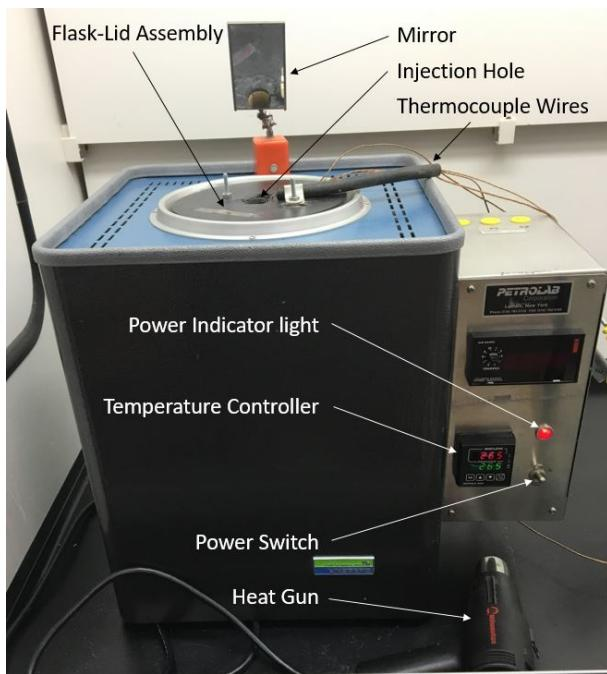

Figure 12: AIT Furnace
- The furnace, shown in Figure 12, is an encased stack of ceramic insulation with cavities cut out to allow space for the heating elements and the test flask (see Figure 19 for an internal diagram of the furnace). The furnace is controlled with measurements taken at the insulated furnace wall. This design causes the furnace to have large temperature gradients while in operation. As a result, the set point temperature and the flask temperature will almost always differ significantly (as much as 25 K in some cases). Therefore, set points must be chosen between approximately 10 - 20 K above the desired temperature to reach that temperature inside the flask. **The reported AIT must be taken from the internal flask temperature (Thermocouple 4) and NOT the control thermocouple inside the furnace**
See Figure 12 for reference on how to operate the furnace